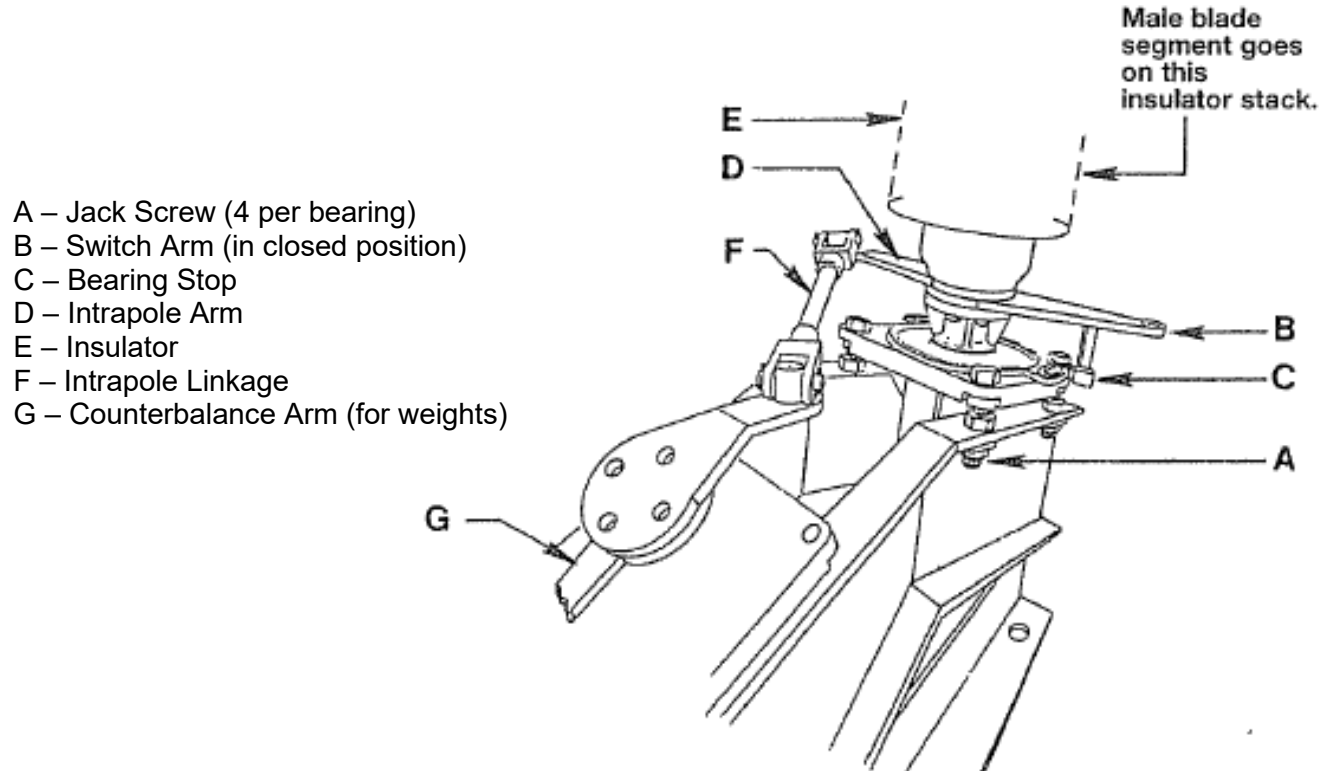

Figure 2: Insulator Bearing Components
4. To install insulators, refer to the unit assembly drawing for proper orientation of parts. Only one set of bearing stops (positioned on control end of base) is used. Position switch arm directly on hub of bearing with bearing stops. Place an intrapole arm on top, being careful to set at proper angle with respect to the switch arm when against the bearing stop. Bolt insulators directly to the intrapole arm plate (**Figure 2**).
IMPORTANT: When adjusting jack screws, adjust each pair of jack screws equally (count the flats). This is to ensure the insulators will move along the centerline of the base in a straight line. See **Figure 2**.